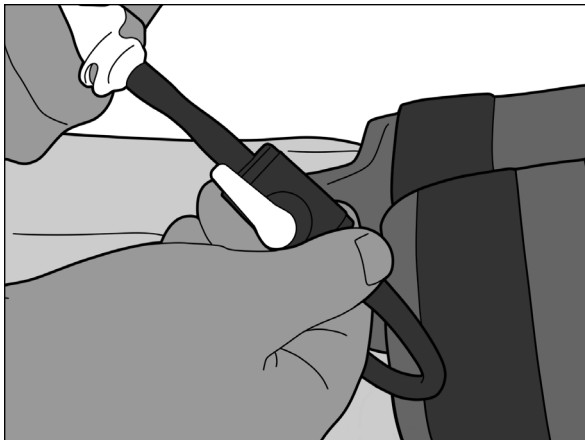

Fig. 15
2. Ensure that the shutoff valve is open. The valve handle should be in-line with tubing (Fig. 15).